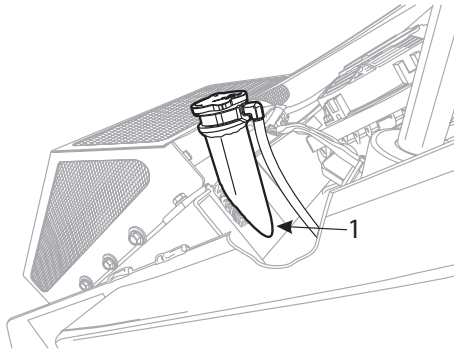

Figure 4-4 Engine Coolant Level Check
- The proper coolant level will be to the bottom of filler neck. (Item 1, Figure 4-4).